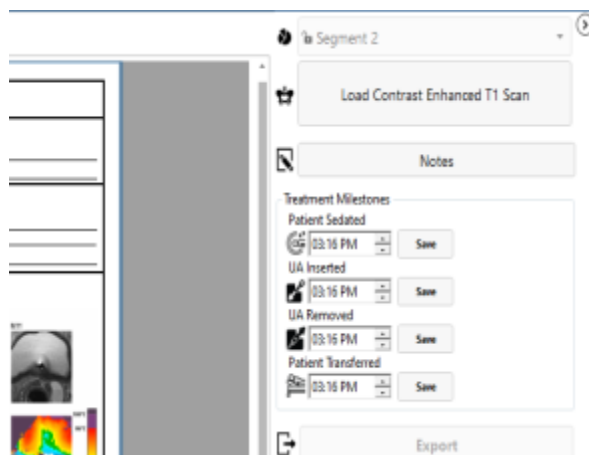

Figure 58: Treatment Milestones panel in Reports workspace
**MRI Technologist:** Use the Treatment Milestones panel in the *Reports* workspace (*Figure 58*) to record:
- The time when the Urologist removed the ultrasound applicator (UA), and